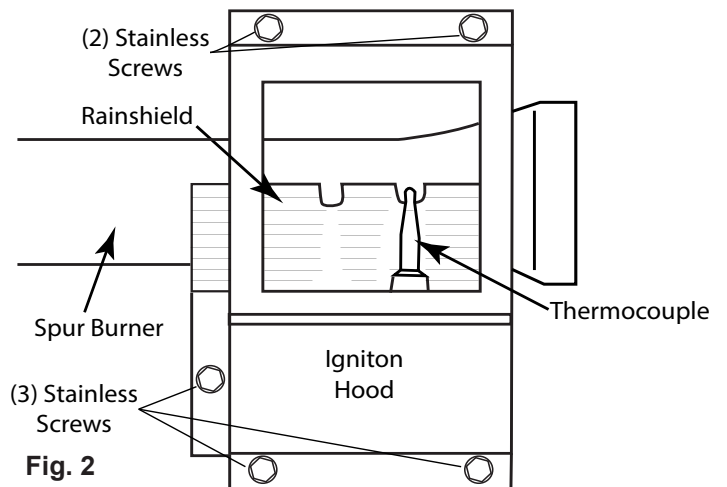

Fig. 2
Step #2: Remove the five (5) stainless steel thread cutting screws from the ignition hood exposing the rainshield and thermocouple. See Fig. 2